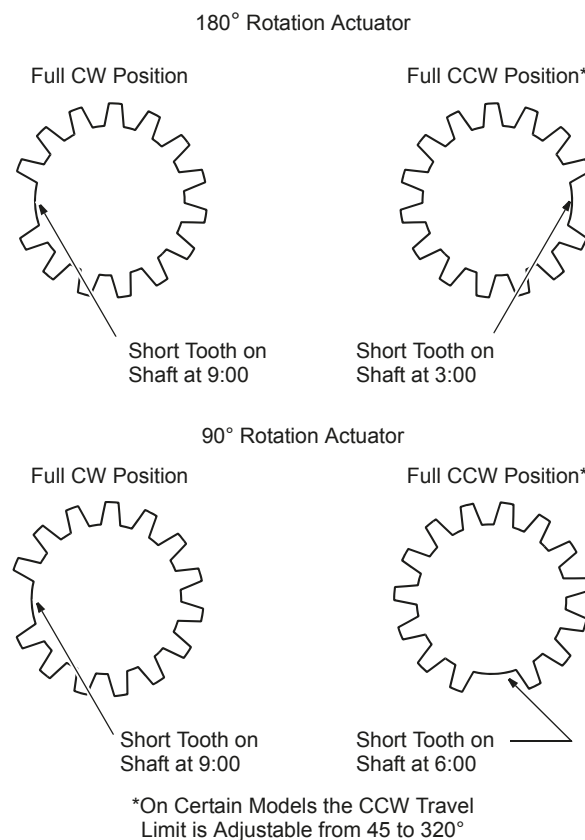
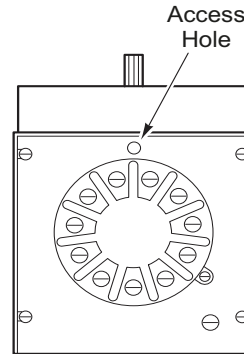

Figure-37 Actuator Output Shaft Position (Front View).
Figure-38 Limit Switch Adjustment.
The counterclockwise limit switch on certain actuators provides adjustable travel of 45° to 320° rotation. The actuator selection tables beginning on page 3 identify the models that have adjustable travel limits. To adjust travel refer to Figure-37 and Figure-38 while following the steps shown below.
2. The actuator should be powered and driven to its CW limit by shorting terminal X to terminal 2. Refer to Figure-37.
3. The access hole for the travel adjustment is located in the top plate of the actuator directly ahead of terminal block in the front of the actuator (where output shaft extends from actuator). Refer to Figure-38.